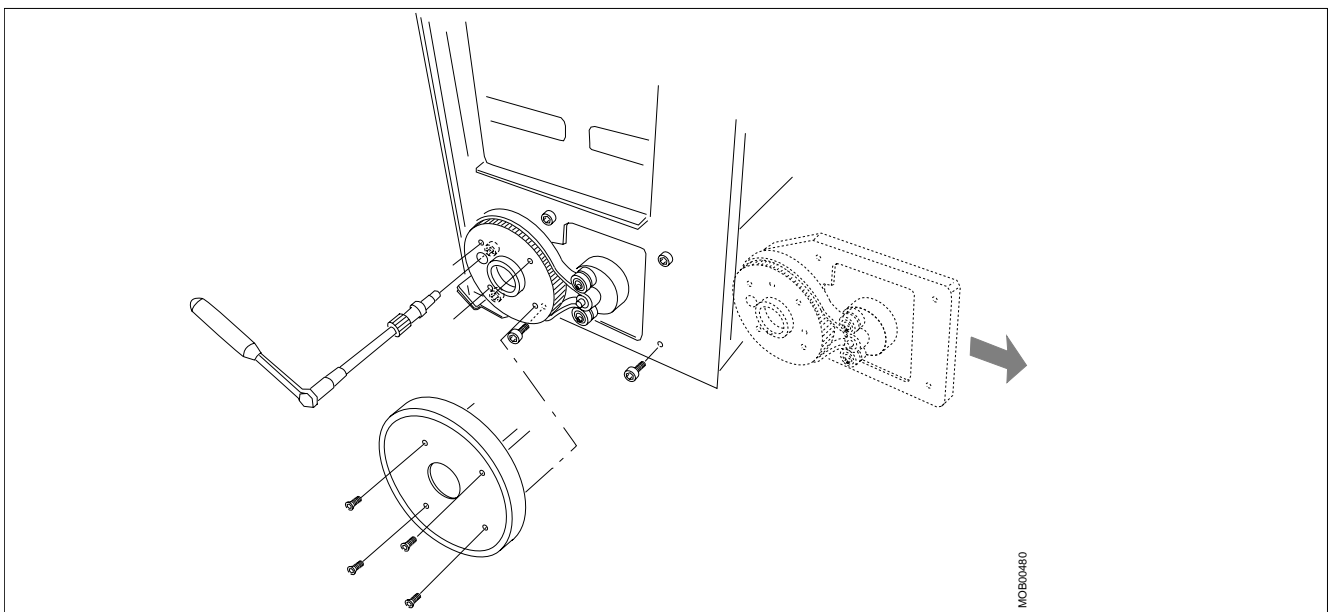

Fig. 8 Removing wheel and motor
- Remove the wheel, 4 screws, according to (Fig. 8).